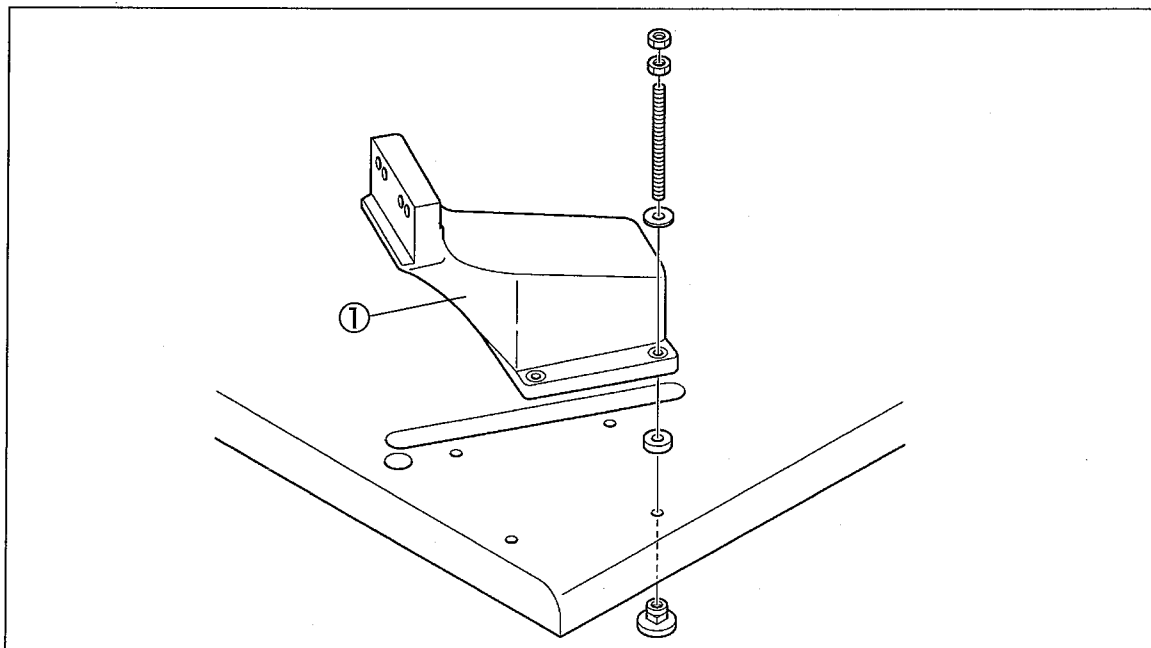

Fig. 5
Set the sewing machine supporting block ①, referring to Fig. 5.